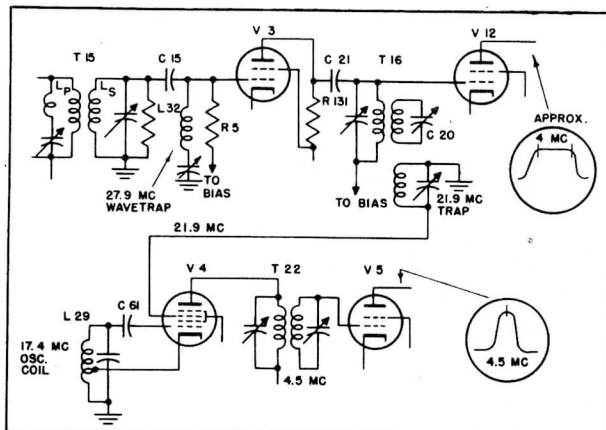

Fig. 4. Video and Audio I-F Amplifier
2. VIDEO AND AUDIO I-F AMPLIFIERS (SEE FIGURE 4)—The video i-f amplifier consists of a three-stage band-pass amplifier using three Type 6AC7 tubes. The transformers, T15, T16, T17, and 18, are overcoupled and then loaded with resistance to give adequate (approx 4 mc) band-pass frequency characteristic. A series tuned trap consisting of L32, C127 and C126 tuned to 27.9 mc is connected in the 1st i-f amplifier grid circuit to provide rejection of the adjacent channel sound. A tertiary trap winding